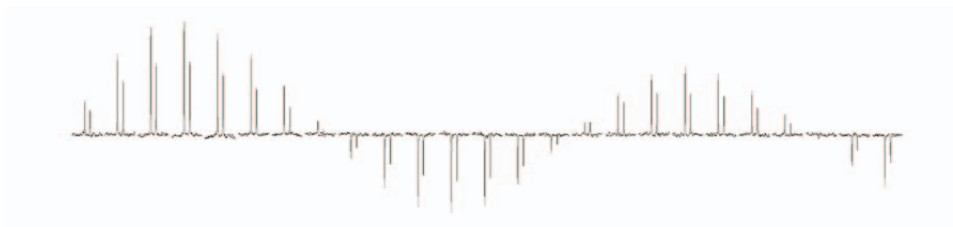

Figure 89. CPMAS pwX90 for $4.0 \mu\text{s}$ ^{13}C 90-degree pulse
- The result is similar to Figure 89.